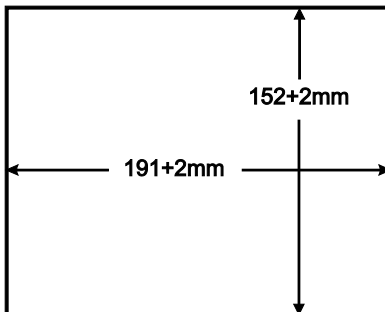

Figure 9: Cut Out Dimensions
3. Following the inside edge of the template, cut a hole in the table surface with a sabre or keyhole saw according to the dimensions shown in Figure 9 (not to scale).